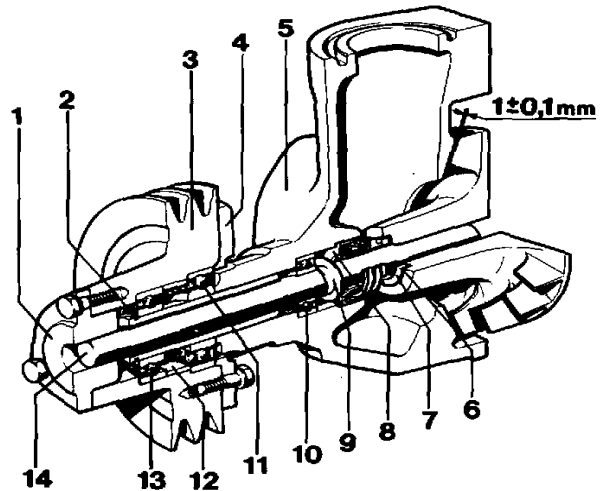

Fig. 193. Coolant pump, (T)MD70, TAMD70
4. Secure the pulley hub in a vice. Fit the lock plate (4, fig. 193) at the rear of the pulley.